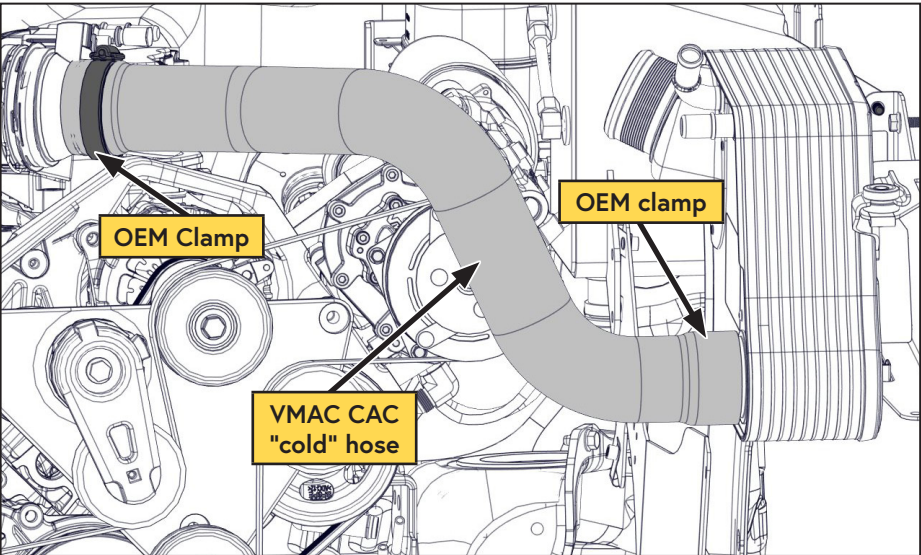

Figure 97 — Installing the CAC hoses
☐ Install the VMAC supplied "cold" CAC hose and secure with OEM hose clamps (Figure 97).
- ☐ Adjust the hose as required to ensure there is a minimum of 3/8" clearance to the compressor clutch (Figure 97).